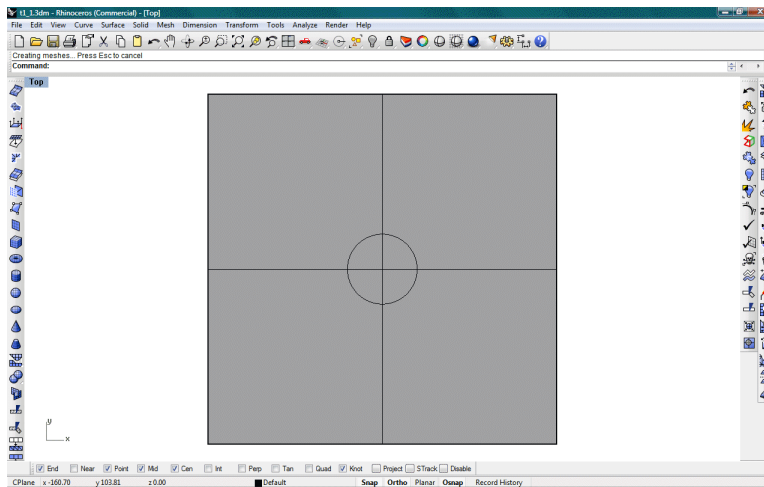

Figure 49: Top view of the square surface patch
27. Select the **Surface | Planar Curves** menu item and click on the square curve to fill its interior with a square surface. Double-click the Title of the **Perspective** Viewport to return to 4-viewport. Double-click the title of the **Top** view port to maximize it (Figure 49).